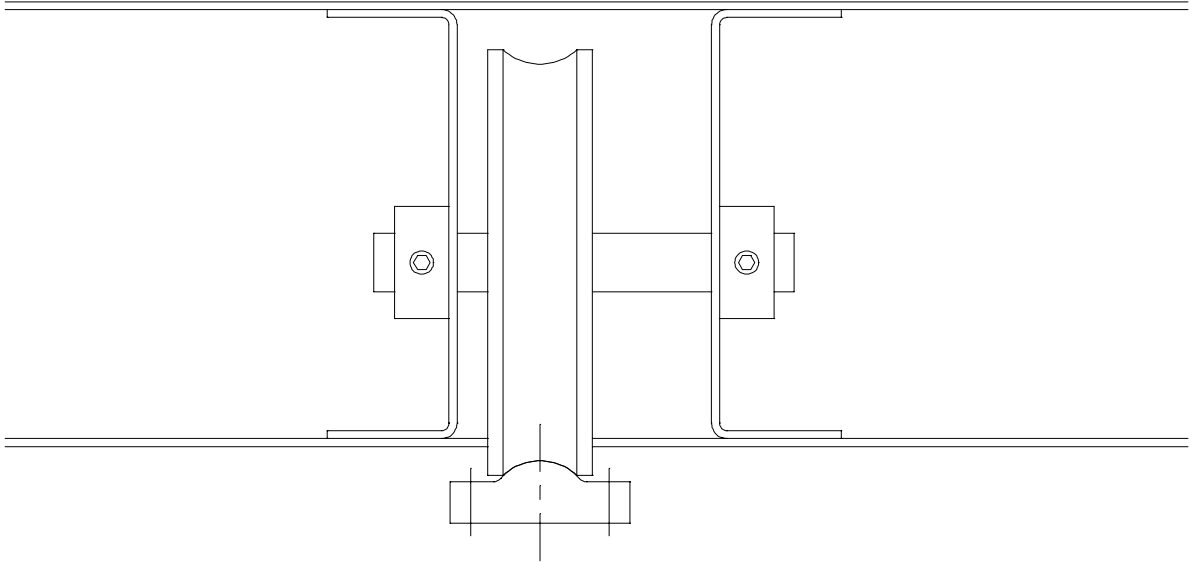

Figure 8
6. If necessary, adjust the wheels to ensure that the concave guide wheels fit squarely on the raised (convex) portion of the rail. (See Figure 8).